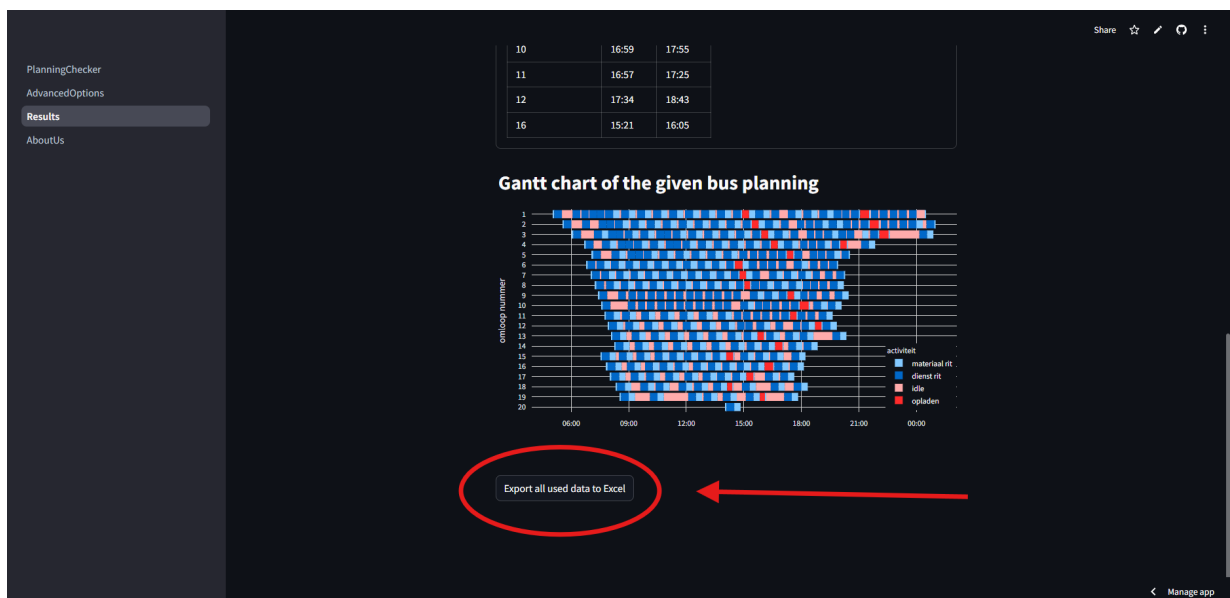

Figure 8: An example of a results screen with the "Export all used data to Excel" button highlighted.
- **New data:** A lot of data is calculated using the set settings. Press the "Export all used data to Excel" button and a new Excel file will be automatically downloaded containing the new data (see figure 8).